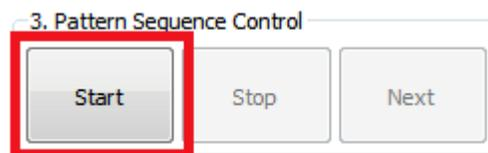

Figure 2-42. DLP LightCrafter GUI Pattern Sequence Control Start Button
- Start the pattern sequence by clicking Start as shown in Figure 2-42.